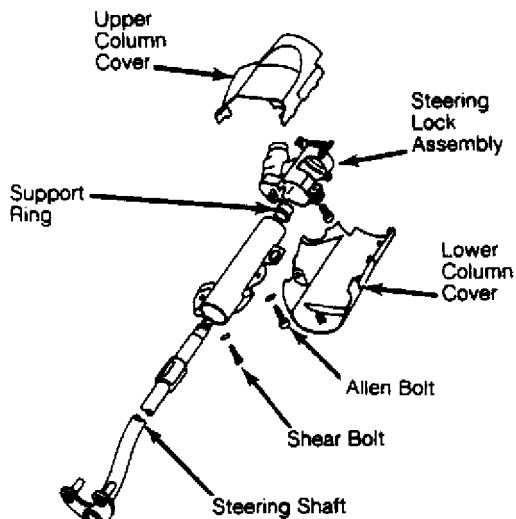
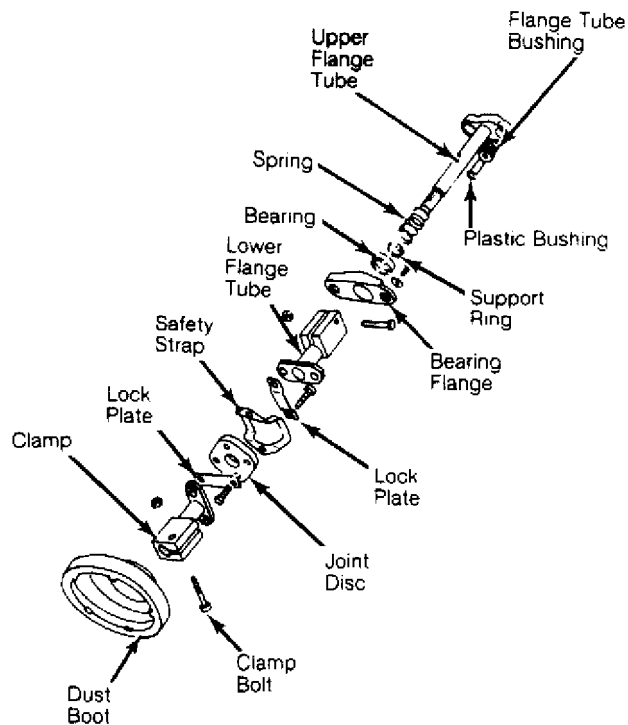

Fig. 1: Exploded View of Upper Steering Column
Fig. 2: Exploded View of Lower Steering Column
1) Disconnect battery ground cable. Remove steering wheel and combination switch. From inside engine compartment, remove clamp bolt retaining steering shaft clamp to steering gear pinion shaft. Remove column cover bolts and steering column covers. See Fig. 1.
2) Pry lock washer from steering shaft. Remove spring. Remove contact ring and steering lock assembly. Remove support ring from column tube. See Fig. 1.
1) Remove lower flange tube clamp bolt from lower steering shaft. Separate flange tubes and remove bearing flange, bearing, support ring, spring and washer. See Fig. 2.
2) Push upper flange tube toward steering shaft until components can be separated. Remove flange tube bushings with plastic bushings. See Fig. 2. Remove joint disc bolts and pinion clamp bolt. Slide column tube from steering shaft. See Fig. 1.